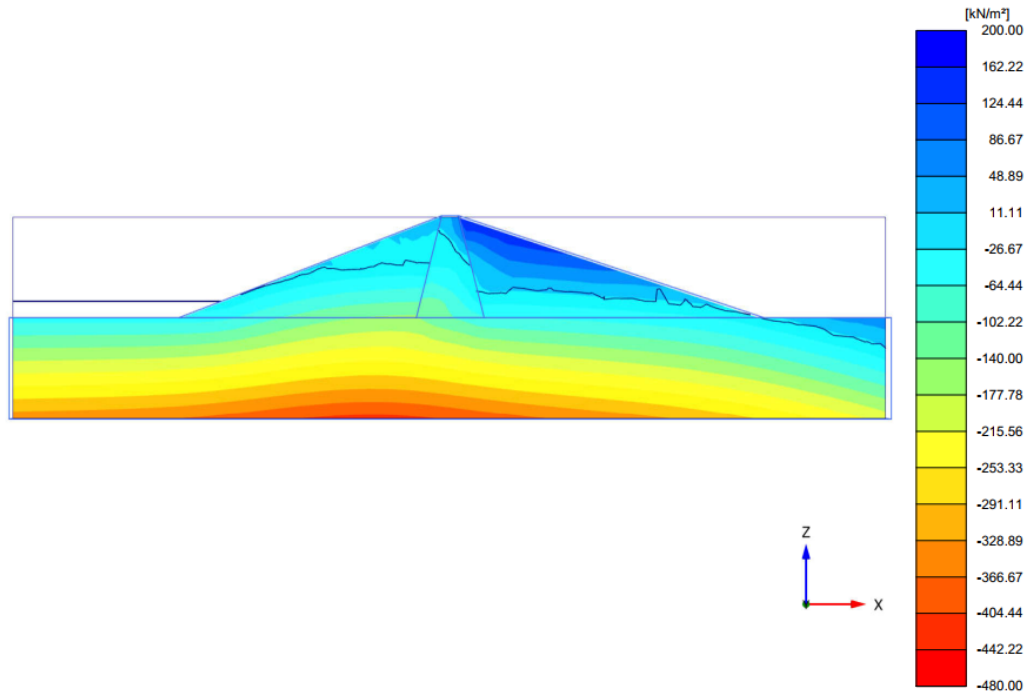

Figure 122: Pore water pressure distribution after slower drawdown (Phase_2)
- The situation after slow drawdown of the reservoir level - See Figure 122 (on page 148).